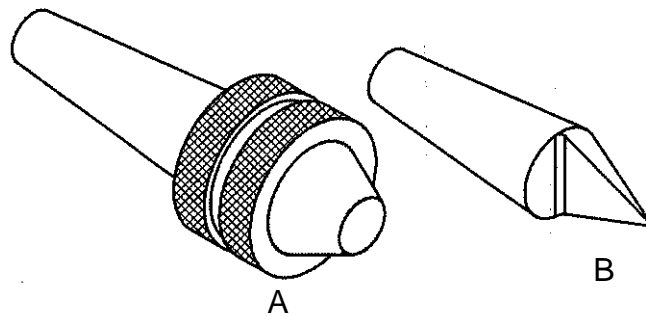

FIGURE 4
5.9 There are four different types of centres used on machines. Identify the centres shown in FIGURE 4 below.